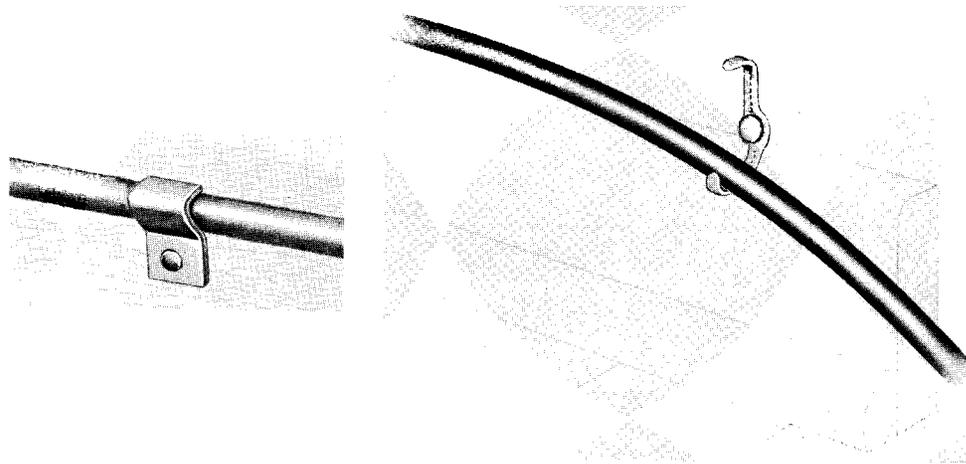

Fig. 1 — Cable Clamp and Cable Clasp
3.02 *A cable clamp and a cable clasp* are shown in Fig. 1. Table A indicates the fasteners to be used to attach cable clamps and cable clasps to various surfaces.